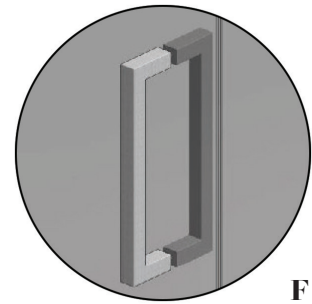

FIG 22.
- Remove the handle from the wrapper, dismantle and re-assemble onto either side of the door. Take care to ensure the plastic bushes are located inside the locator holes and the locking hex screws are tightened so the handle is tight and secure (**FIG 22**).